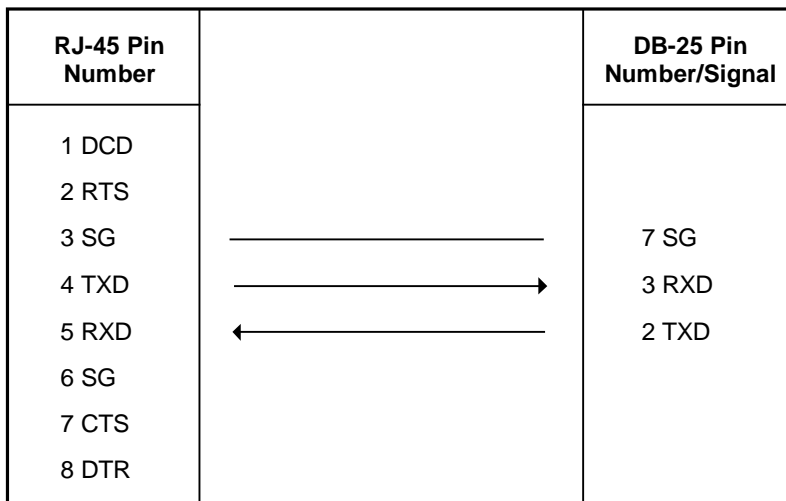

Figure 2-7 RJ-45 to DB-25 3-Wire Terminal Cable
To connect your EIA-232 device to the serial port of an RCS/5000, you need to determine whether the device connector wiring follows the standard for data terminal equipment (DTE) or for data communication equipment (DCE). In general, modems are wired as DCE devices and all other devices are wired as DTE; however, some equipment manufacturers may deviate from the standard. The manual for your device will contain information on the pinouts for the device. Figures 2-3 through 2-6 show cable diagrams for the most common configurations. Figure 2-7 shows a minimal cable using 3 wires.
The cable shown in Figure 2-3 or 2-4 may be used to connect most ASCII terminals or serial printers to RCS/5000 serial ports. The cable shown in Figure 2-5 or 2-6 may be used to connect modems to the RCS/5000. Modems should be configured to switch their carrier detect signal (CD) on and off in response to making and breaking telephone connections. This insures that the RCS/5000 terminates users' sessions when they disconnect. Figure 2-7 shows a 3-wire cable.
The RCS/5000 does not require the use of all 8 wires. Only pins 3, 4, and 5 are essential. RTS/CTS and DTR (pins 2, 7, and 8) are only necessary for flow control. Only one ground, (e.g., pin 3) is necessary. Although the RCS/5000 requires DCD by default, you can change the serial port setting so that the DCD signal is not required. Thus, a minimal cable as shown in Figure 2-7, using only RX (pin 5, data in), TX (pin 4, data out), and SG (pin 3, ground), can be used.